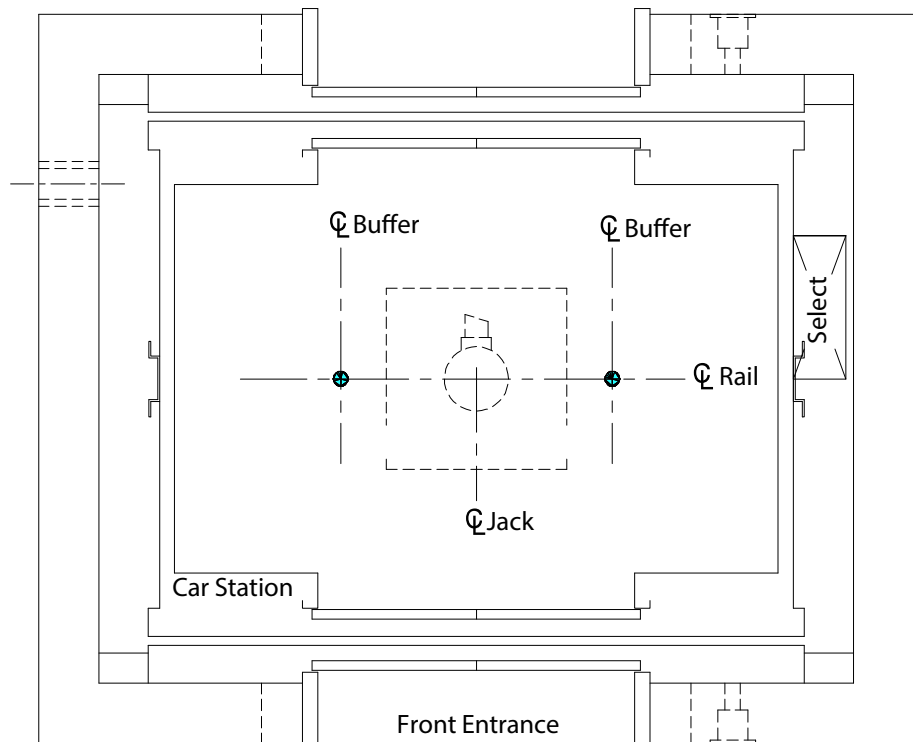

Figure 23 - Example Layout
2. From the top landing, check the travel and plumb of the front walls and floor landings. See Figure 23.